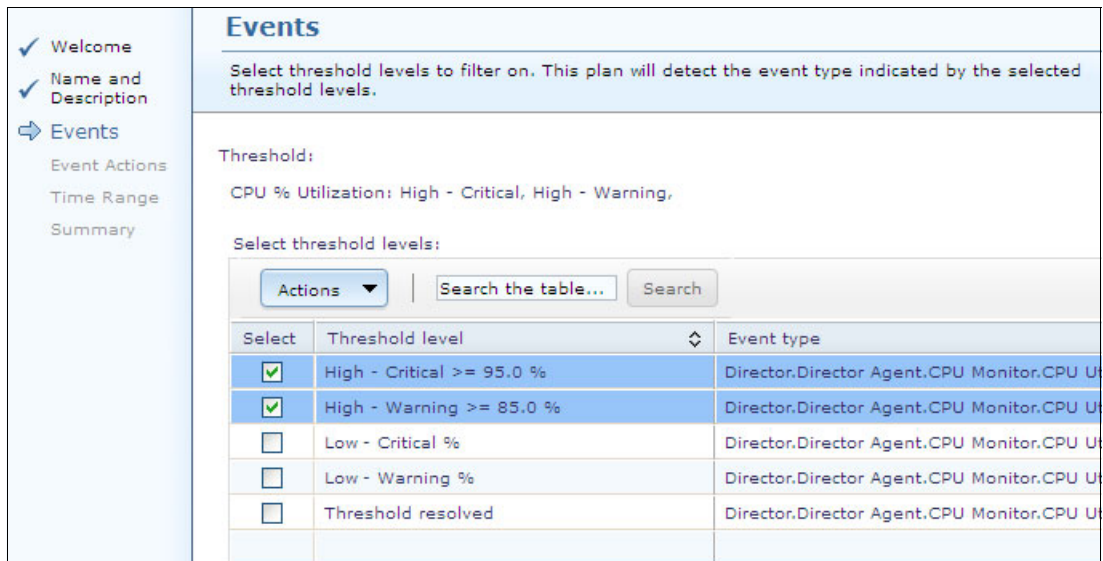

Figure 7-50 Create Event Automation Plan Wizard Events window
10. Select threshold levels on which to filter. In this case, select **High - Critical** and **High - Warning**, as shown in Figure 7-50. If you want to receive an email when the Critical condition is resolved, select **Threshold resolved**, as well. Click **Next**.